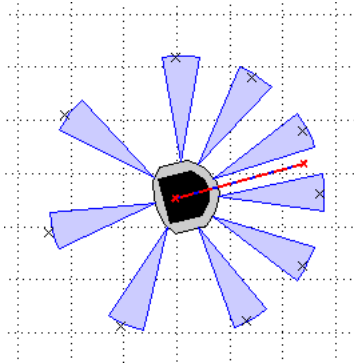

Figure 4: IR range to point transformation.
Start by downloading the new robot simulator for this week from the “Programming Exercises” tab on the Coursera course page. This week you will be implementing the different parts of a controller that steers the robot successfully away from obstacles to avoid a collision. This is known as the avoid-obstacles behavior. The IR sensors allow us to measure the distance to obstacles in the environment, but we need to compute the points in the world to which these distances correspond. Figure 4 illustrates these points
In `+simiam/+controller/+AvoidObstacles.m`, implement this transformation in the `apply_sensor_geometry` function. The objective is to store the transformed points in `ir_distances_rf`, such that this matrix has v''_1 as its first column, v''_2 as its second column, and so on. This matrix now contains the coordinates of the points illustrated in Figure 4 by the black crosses. Note how these points *approximately* correspond to the distances measured by each sensor (Note: *approximately*, because of how we converted from raw IR values to meters in Week 2).
2. Once you have implemented the second part, one black cross should match up with each sensor as shown in Figure 4. The robot should drive forward and collide with the wall. Note: The robot starts at an angle of $\frac{\pi}{12}$, instead of its usual angle of zero. The blue line indicates the direction that the robot is currently heading (θ).